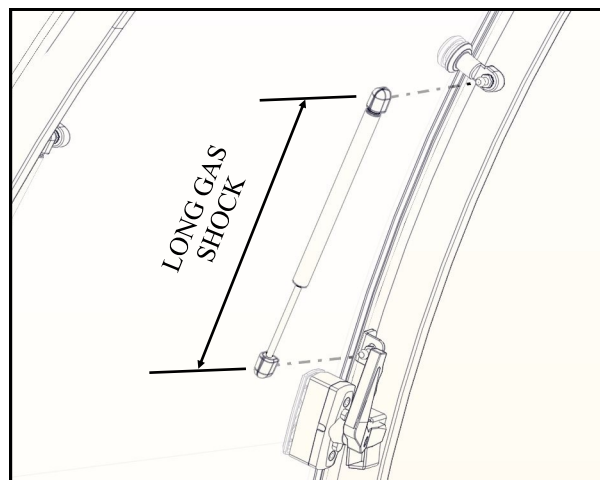

Fig. 14.3 (Gas Shock Installation)
**14.3** Install (2) Long Gas Shocks in place making sure the piston rods are pointed down. See Fig. 14.3. Ensure windshield opens and closes properly.